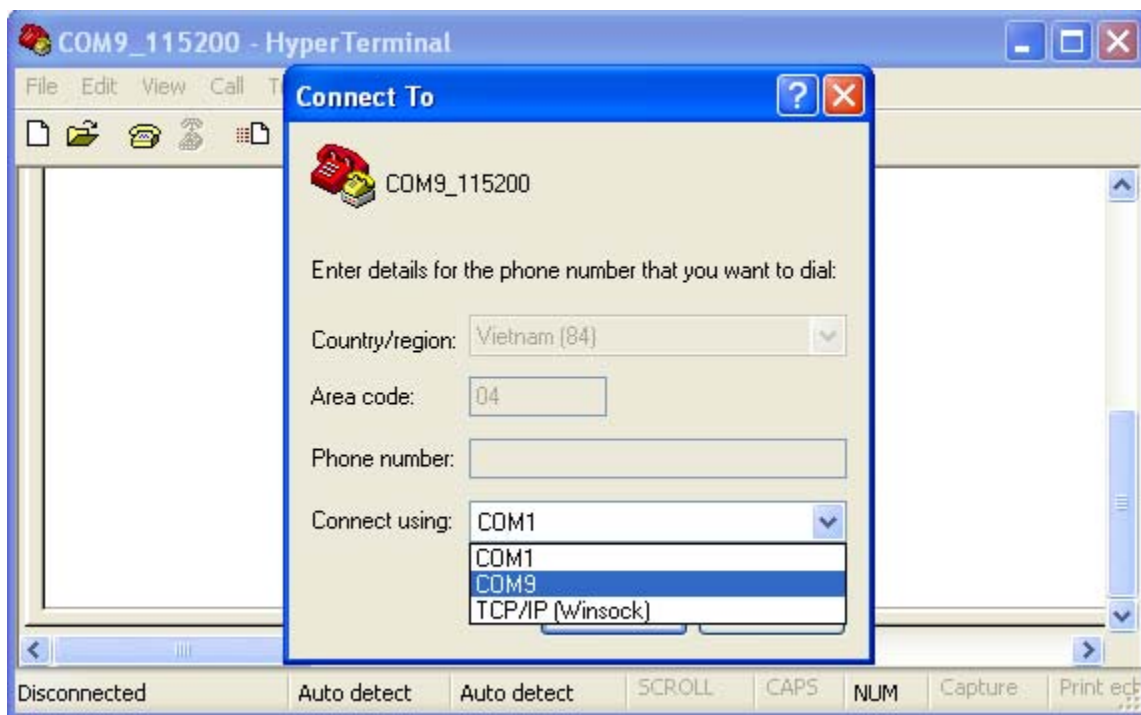

Figure C-6. Connect Using COM9
5. The window shown in the Figure C-6 appears. Select the COM port identical to the one that shows up on the device manager.